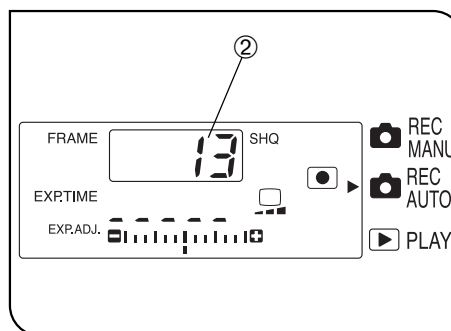

Fig. 8
• The LCD panel shown in Fig. 8 shows the setup before turning power ON and the number of remaining pictures ② in the current picture quality mode (see page 21).